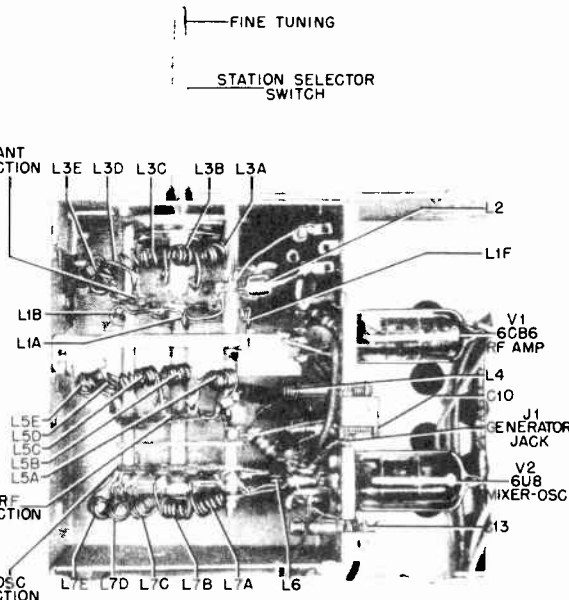
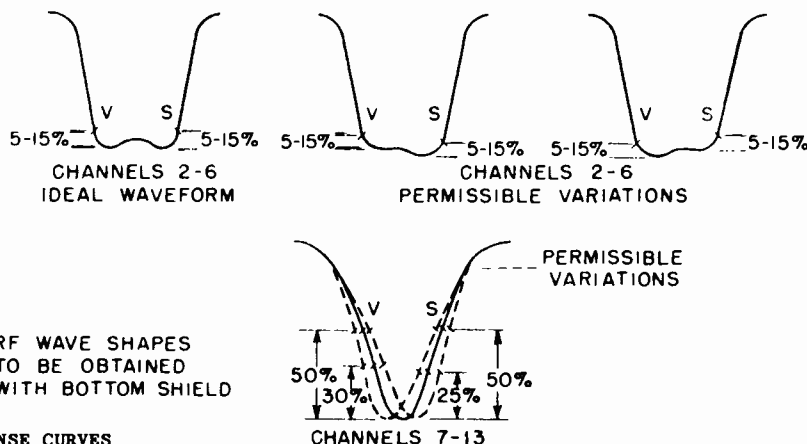

FIGURE 9. ANTENNA, RF, AND OSCILLATOR COIL LOCATIONS
FIGURE 10. RF RESPONSE CURVES
3. Connect the oscilloscope, through a decoupling resistor of 47K ohms, to jack J-1, in the grid circuit of the mixer tube V-2B. See Figure 9.
6. Refer to Figure 9 for the location of the trimmers and coils. The chart listed above gives the picture and sound carrier frequencies.
7. The antenna coils are tuned to the video carrier frequency and the RF coils are tuned to the sound carriers. Figure 10 shows the shape of the curve which should appear on the oscilloscope.
10. Adjust ceramic trimmer C-10, so that the video and sound markers appear on the response curve within the limits shown in Figure 10.
11. Move the station selector switch to channel 13, and set the generator to the center frequency of the channel (213 mc). Adjust the screw in coil L-4 for the proper response on channel 13 (see Figure 10).
13. Check channels 13 through 7 and compare with curves in Figure 10. The peak of the curves may be sharpened or broadened by changing the position of the grounded end of the high frequency matching bus L-1F. It should be approximately 3/16" from the switch shield. For minor adjustments, bend the bus to increase or decrease the amount of wire extending through the switch shield. Note the response curve.
15. Compress or spread the channel 6 antenna coil L-1C and RF coil L-5E to obtain the proper response. See Figure 9 for coil locations and Figure 10 for response curve. The antenna coil affects the video carrier and the RF coil affects the sound carrier.
4. Refer to Figure 9 for the locations of the trimmers and coils. The sound carrier frequencies may be obtained from the chart above.